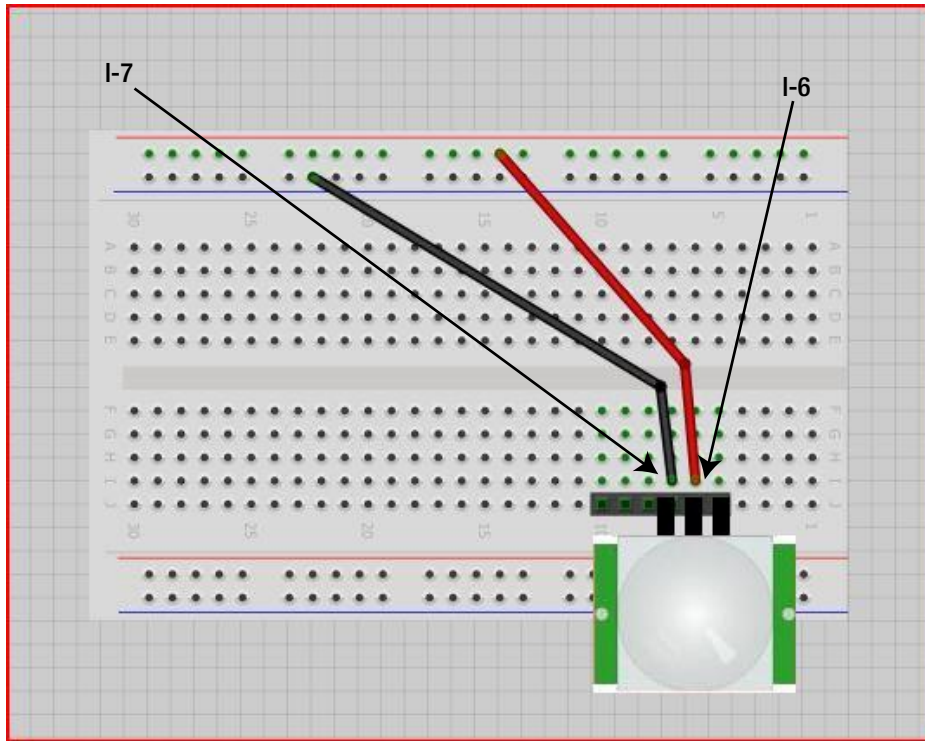

Figure 19-6. Attach power and ground to the PIR sensor
4. Now connect the 5V pin on the PIR sensor to what will become the 5V power source on the breadboard. In Figure 19-6, this corresponds to the column of holes that runs right next to the red line on the breadboard. We connected a red wire from I-6 to the power column at row 12. We connected a black wire from I-7 to the GND column at row 19.